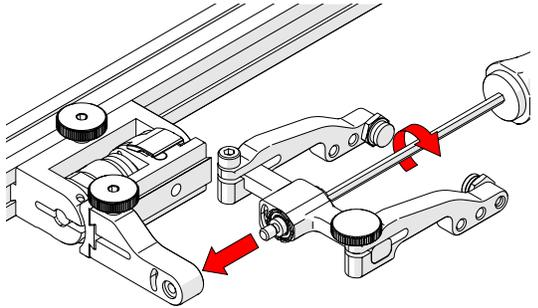

Fig. 120 - Install yoke to swing arm
6. Using the 3 mm hex driver, screw the yoke pivot screw into the opposite side of the probe holder swing arm (Fig. 120). Ensure the yoke is level to avoid issues with the plunger/set screw.